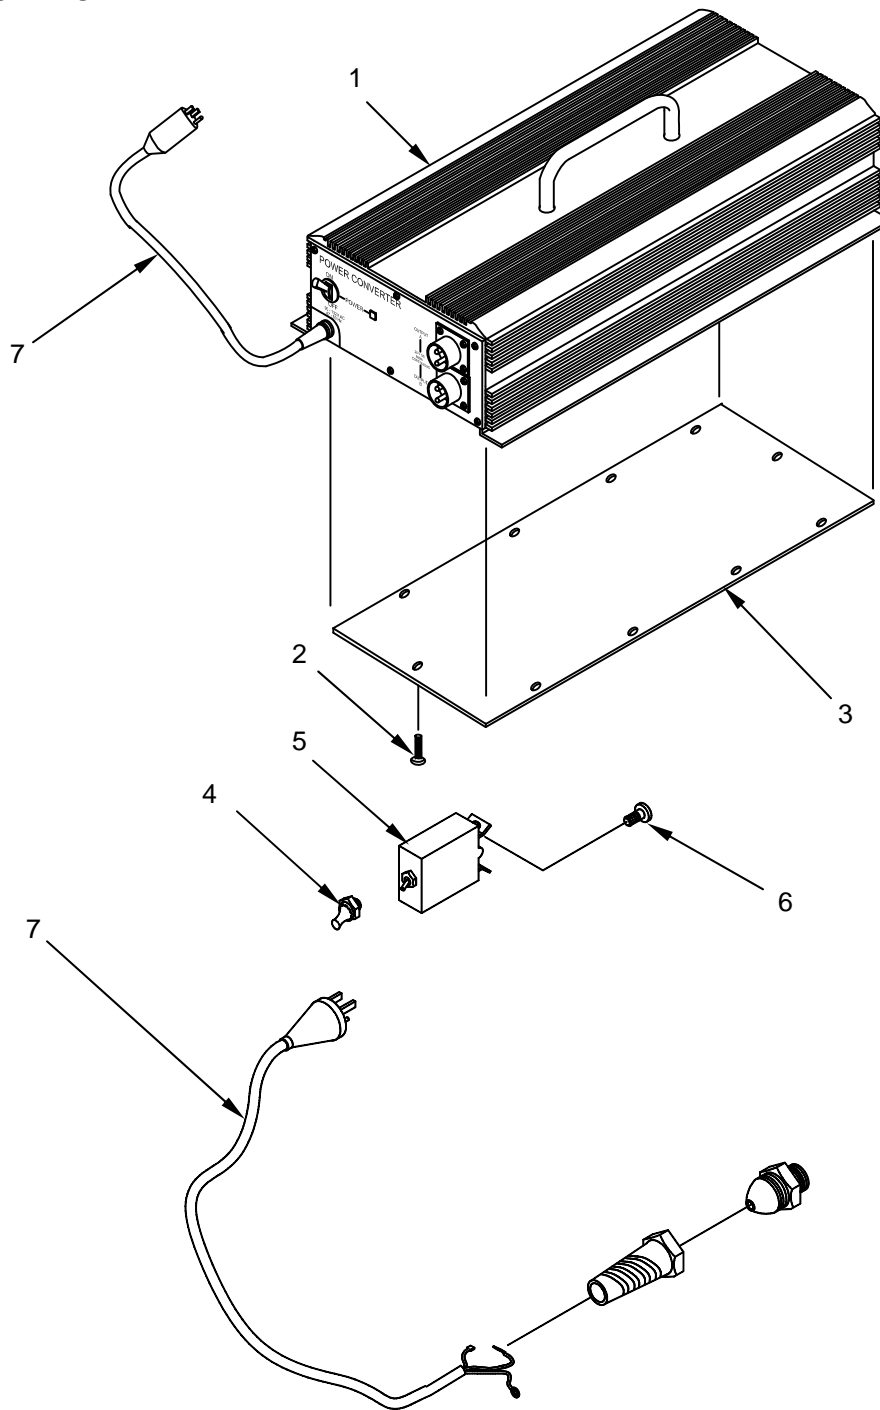

Figure 2. Test the Power Converter (MS0160).
1. Connect the power converter (Figure 2, Item 1) to an approved power source.
2. Use a multimeter to verify that the output voltage of the power converter (Figure 2, Item 1) is 23-29VDC. If the output voltage is correct, no further testing is required.
3. Disconnect the power converter (Figure 2, Item 1) from the power source.
4. Remove the fasteners (Figure 2, Item 2) retaining the bottom cover of the power converter (Figure 2, Item 1), and then remove the bottom cover (Figure 2, Item 3). Retain the fasteners for reassembly.
5. Loosen and remove the hex nut with protective rubber cap (Figure 2, Item 4) on the main power switch (Figure 2, Item 5).
6. Reach inside the power converter case and withdraw the main power switch (Figure 2, Item 5) from the case as far as the wiring will allow.
7. Take note of the location, color, and connection point of the two wires connected to the main power switch (Figure 2, Item 5) inside the power converter to ensure that the wires are reconnected properly when the switch is replaced. Tag the wires as necessary.
8. Loosen and remove the fasteners securing the wires to the terminals on the main power switch (Figure 2, Item 6). Retain the fasteners for reassembly. Move the wires aside.
9. Move the power switch to the ON position and test for continuity through the power switch (Figure 2, Item 5) with a multimeter. If the power switch is not defective, check for continuity through the power cord (Figure 2, Item 7). If both the power switch and power cord are not defective, the entire power converter should be replaced.
10. To install the main power switch (Figure 2, Item 5), reconnect the wiring to the switch as tagged and secure with the retained fasteners (Figure 2, Item 6).
11. Place the main power switch (Figure 2, Item 5) in position in the power converter's front panel. Be sure to position the switch so that the screw terminal labeled "LOAD" is facing up and out of the case while the terminal labeled "LINE" is facing down into the power converter case.
12. Install the hex nut with protective rubber cap (Figure 2, Item 4) on the front of the main power switch (Figure 2, Item 5).
13. Install the bottom cover (Figure 2, Item 3) of the power converter (Figure 2, Item 1) and secure with the retained fasteners (Figure 2, Item 2).